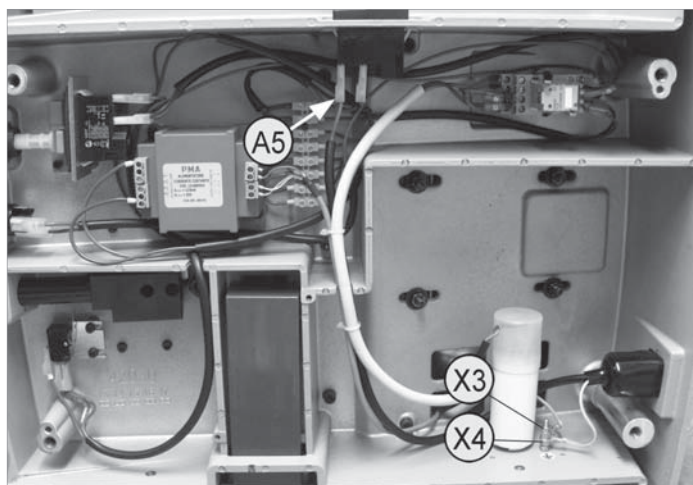

Fig.71
- 3) Disconnect the 2 connectors (A5) from the ON/OFF switch, loosen the nuts (X3) and (X4) in order to remove the earth wire, and remove the plug (Fig.71).